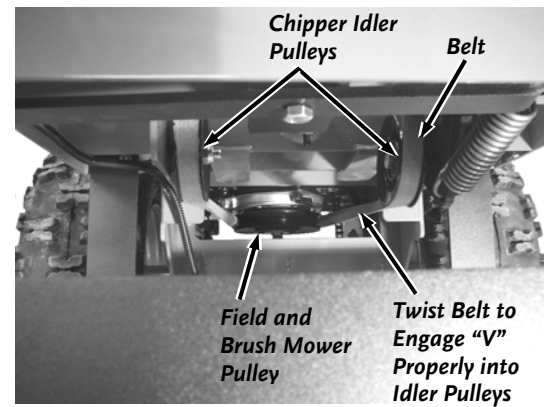
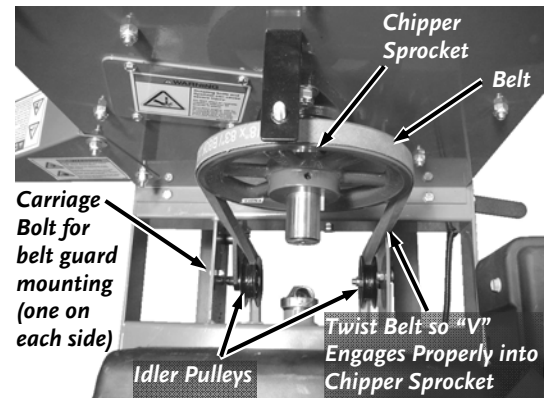

Figure 47
Figure 48
5. Position the Belt onto the Field and Brush Mower Pulley (**Figure 47**) and then route it over the two Idler Pulleys and up around the Chipper Pulley (**Figure 48**).